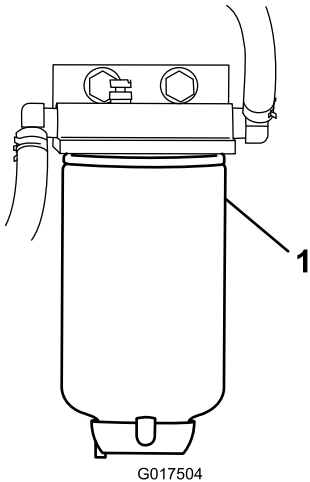

Figure 25
3. Unscrew the fuel filter from the bracket (Figure 25).